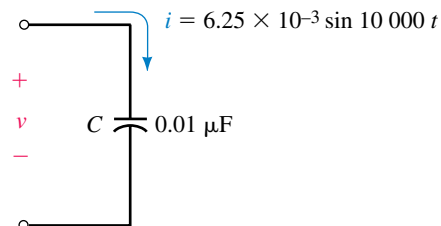

FIGURE 18-84
9. Repeat Problem 5 for the component shown in Figure 18-84.